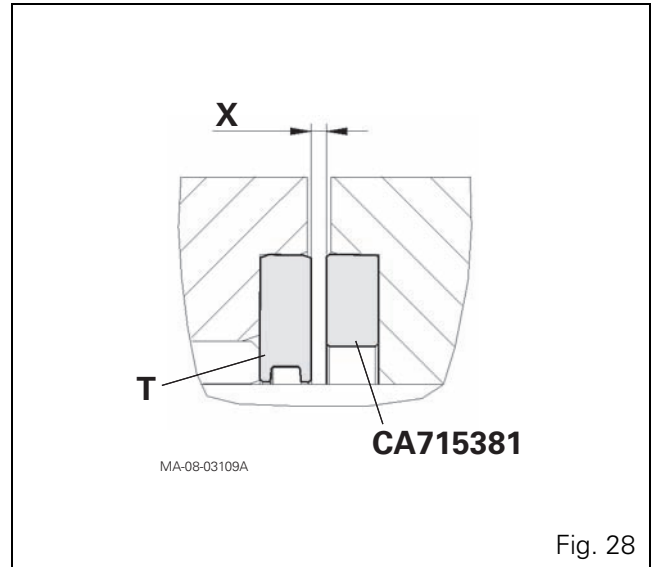

Fig. 28
30. Measure clearance X using thickness shims between the spacer (49) and the dummy thrust washer CA715381 (Fig. 28).